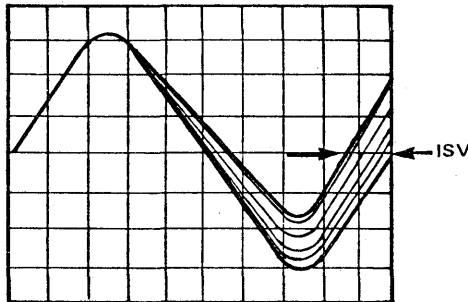

Figure 4-3. ISV Test Waveform
f. ISV will appear as the width of the trace, as shown in figure 4-3. The maximum allowable amount of ISV is eight percent of the overall width of one cycle of the waveform. If the ISV is greater than 8%, troubleshoot to the defective component; there is no adjustment.